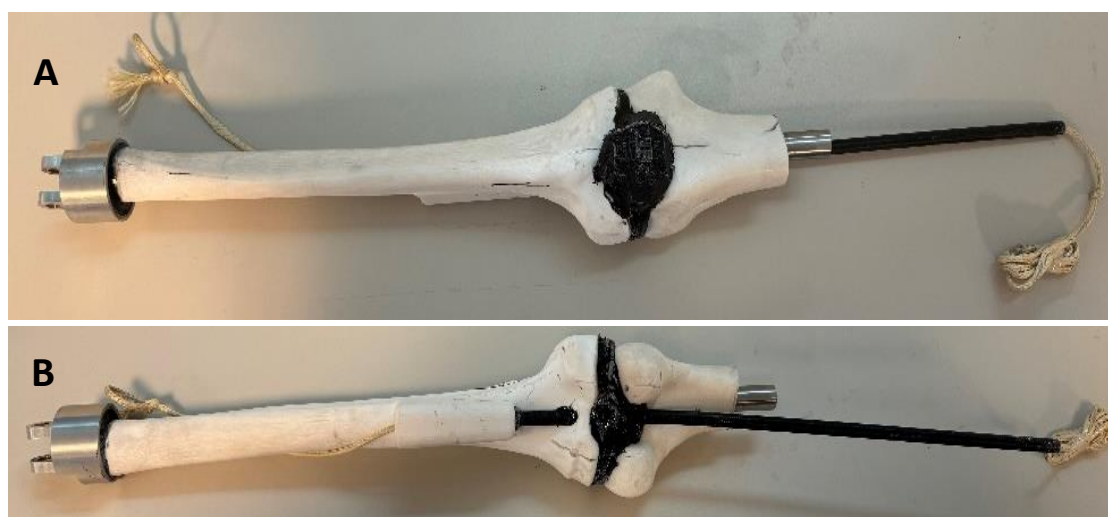

Figure S1: (A) anterior and (B) posterior views of aligned knee assembly.
10. Press fit the two brass bearings into the proximal aluminum ankle where the axel will be inserted. (See Figure S1)